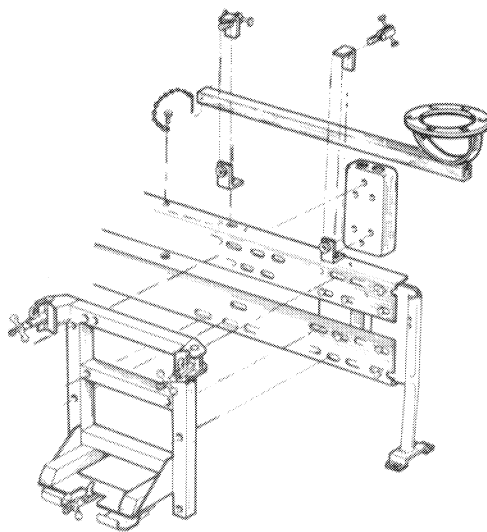

Fig. 12 Antenna support: ½ ton GS exploded view
3. Using 2 off M8 x 25 countersunk screws, nuts and washers bolt the two angles, clamp, threaded (5975-99-637-0888) to the top of the equipment rack and the channels, equipment rack as in fig. 12.
4. Using 6 off M8 x 45 bolts, nuts and washers secure frame electrical equipment (5820-99-620-9619) to the equipment rack as in fig. 12. 4 off M8 x 45 bolts, nuts and washers are stowed in the linen bag attached to the frame, electrical equipment. 2 off M8 x 45 bolts, nuts and washers are stowed in a linen bag attached to bracket support equipment rack (5985-99-645-0294).
6. Pass support, antenna base (5985-99-637-0886) through the sleeve in the tilt and clamp it to the top of the equipment rack using the angles, clamp (5975-99-637-0887) and bolts, sliding handle (5206-99-637-0890). Pass the bolts, sliding handle through the angles, clamp and screw them into the angles, clamp threaded, as in fig. 12.